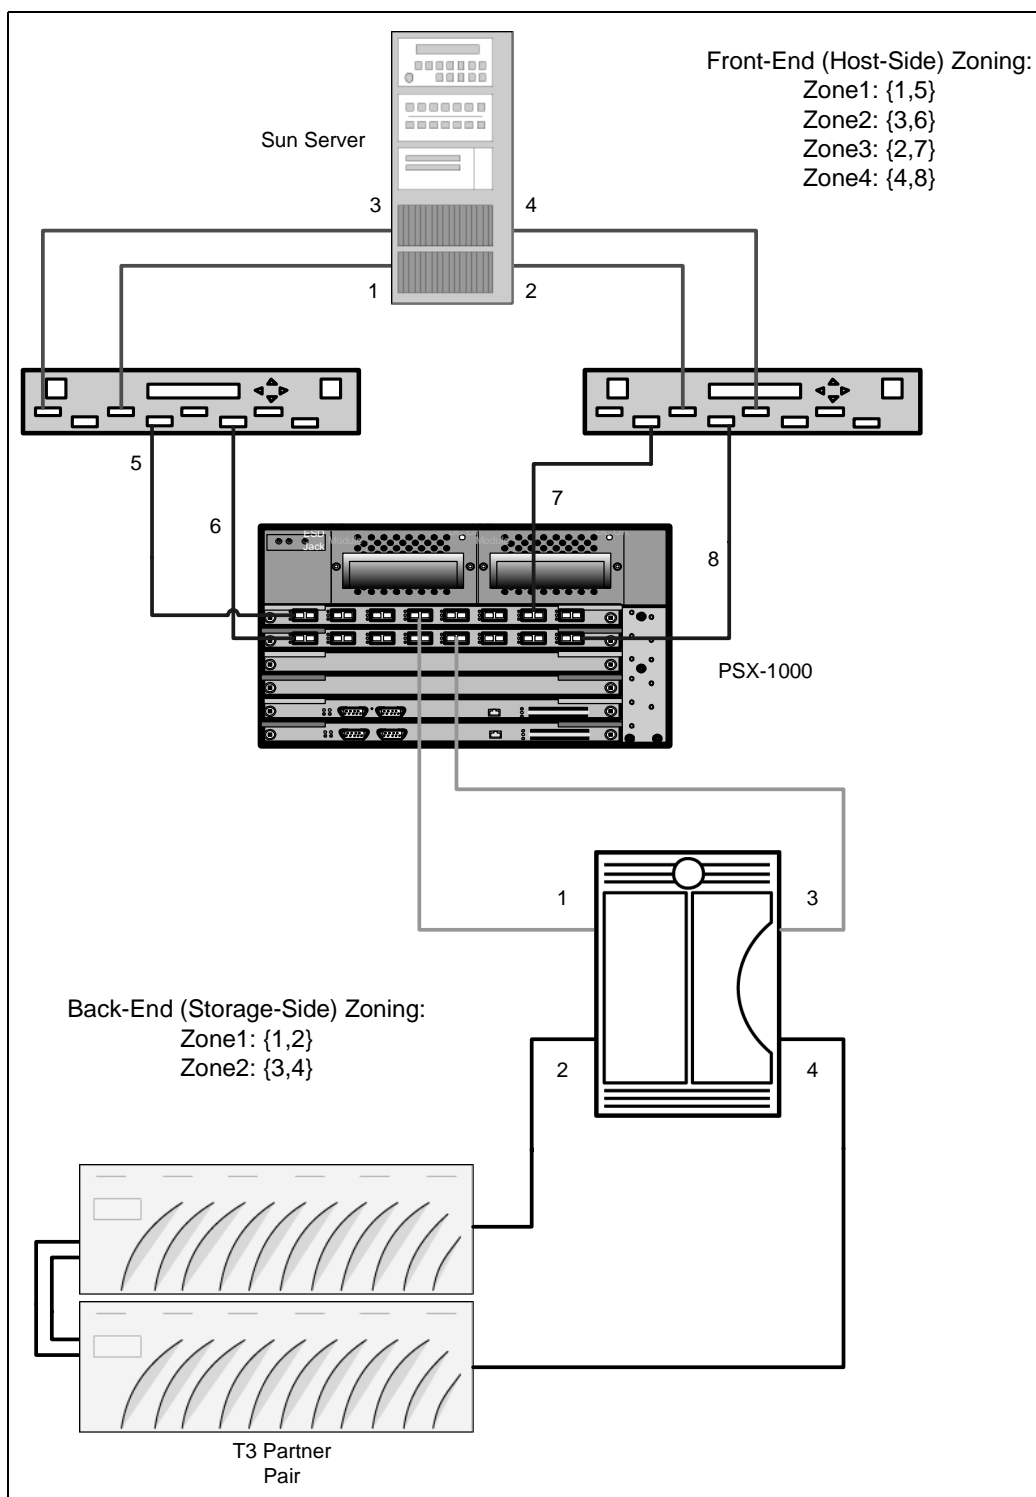
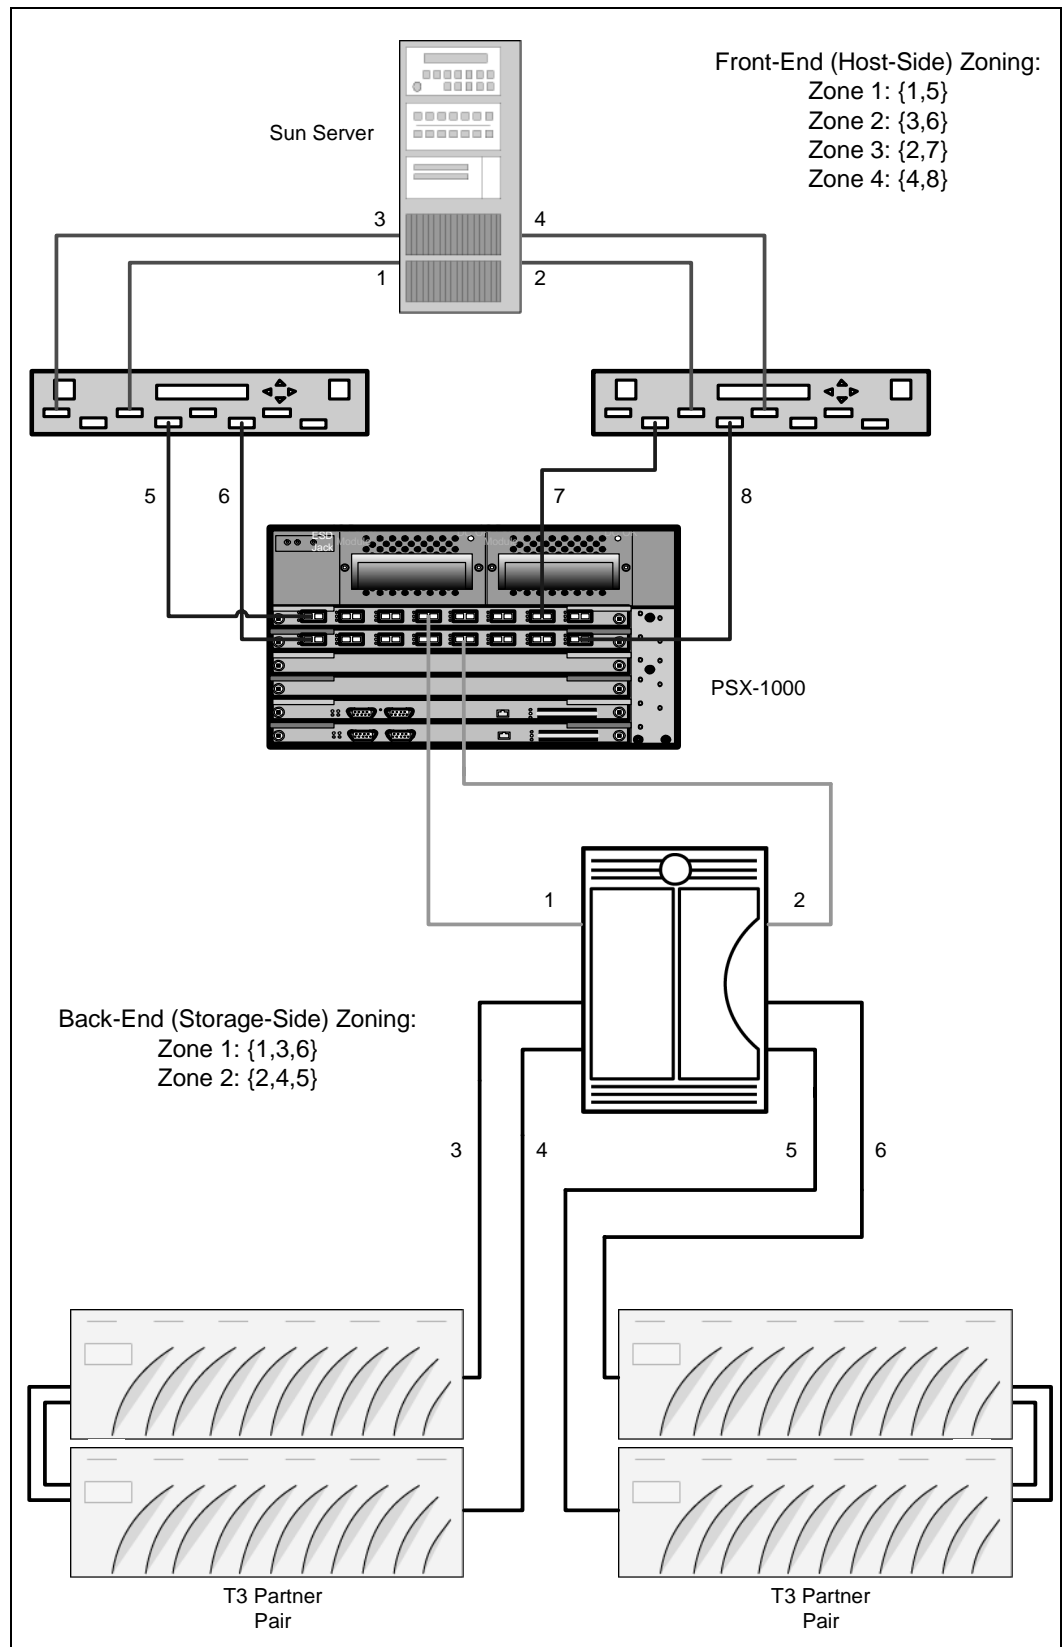

Figure 2 Fibre Channel (FC) Zoning Example 1
Figure 3 Fibre Channel (FC) Zoning Example 2
6.2.5 Fibre Channel (FC) Switch Zoning
- In a non-zoned switch environment, with multiple connections from an FC switch to the PSX-1000, a port on the PSX-1000 will detect all other PSX-1000 ports connected to the same switch fabric. Therefore, FC switches must be zoned to ensure that one PSX-1000 port is not visible to another port and that each front-end/back-end port is presented to only one PSX-1000 port. By zoning the switch, (either by port or WWN), the PSX-1000 will correctly display attached FC servers and back-end storage. Figure 2 and Figure 3 provide simple examples of switch zoning when using the PSX-1000.
For example, Figure 2 provides an example configuration containing two front-end switches connected between the PSX-1000 and a Sun server, and a single back-end switch connected between the PSX-1000 and a T3 partner pair. Each switch contains 2 zones. Each zone on the front-end switches contains one port that is connected to a Sun Server HBA port and one port that is connected to a PSX-1000 port. Each zone on the back-end switch contains one port that is connected to a PSX-1000 port and one port that is connected to a T3 partner pair.
Figure 3 provides an example configuration containing two front-end switches connected between the PSX-1000 and a Sun server, and a single back-end switch connected between the PSX-1000 and two T3 partner pairs. Each switch contains 2 zones. Each zone on the front-end switches contains one port that is connected to a Sun server HBA port and one port that is connected to a PSX-1000 port. Each zone on the back-end switch contains one port that is connected to a PSX-1000 port and two ports that are connected to the T3 partner pairs. Through the switch, one port on the PSX-1000 is connected to the master controller port of each T3 partner pair, and the second port is connected to the alternate master controller port of each T3 partner pair.